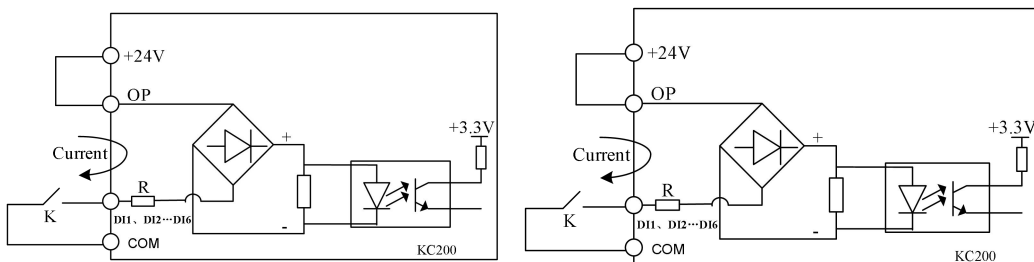

Figure 3-6 The connection method of using the internal 24V power supply
The KC200 multi-function input terminal uses a full-bridge rectifier circuit, as shown in Figure 3-6. OP is the common terminal of DI1~DI6. The current flowing through the PLC terminal can be a source current or a sink current. The external interface between DI1~DI6 is very flexible. The typical wiring method is as follows:
1) Use the 24V power supply inside the AC drive, and the wiring method is as shown in Figure 3-6.